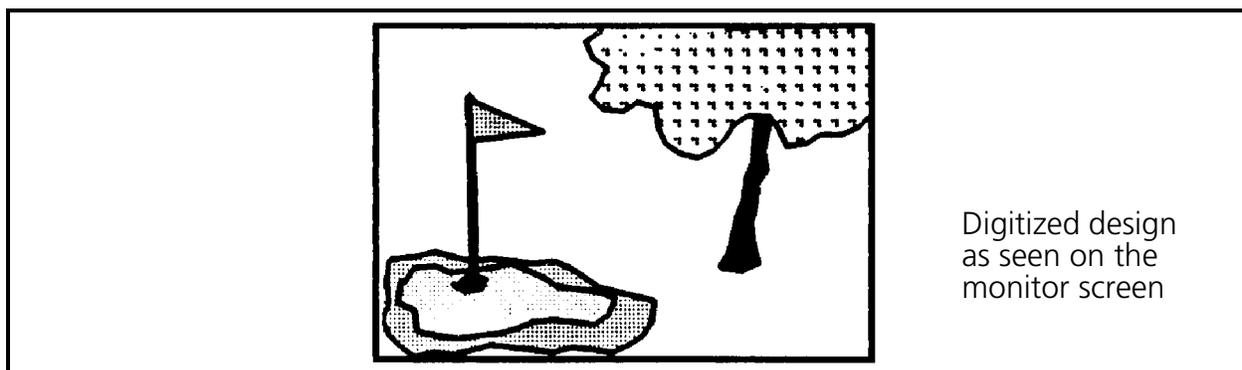

Figure 5-12
3. After the set horizontal function is completed, when you digitize your design the horizontal orientation of the design will align with the "A-B" line you indicated (see Figure 5-12).